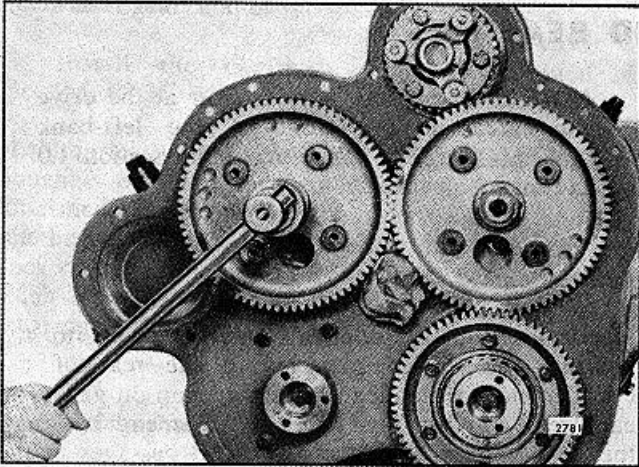

FIG.2 - Loosening Camshaft Gear Retaining Nut
9. Wedge a clean rag between the gears (Fig. 2) and remove the gear retaining nut from both ends of each camshaft. On current left-hand rotation 6V and 8V engines, remove the lock bolt and washer from the rear of the right-bank camshaft.
6. Wedge a clean rag between the camshaft gears (Fig. 2) and remove the gear retaining nut from both ends of the camshaft.